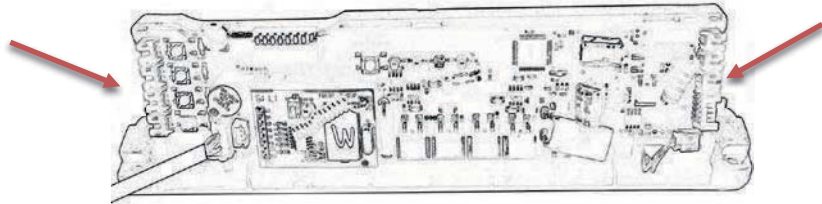

Figure 19: Plug the cables into the controller.
7. Plug the motor cable into the controller (Figure 19) in a port labeled **Motor**.
8. Plug the AC adapter cable into the controller (Figure 19) in a port labeled **Power**.